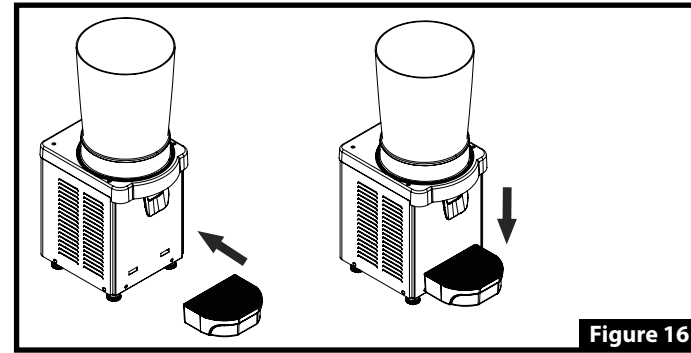

Figure 16
3. After you open the machine box, drip trays are packaged. You can mount them on the machine as shown in **"Figure 16"**